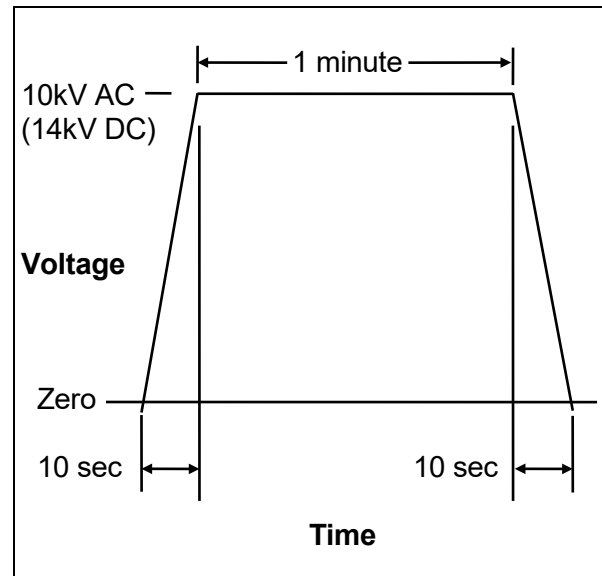

Figure 12 - Application of Test Voltage for Vacuum Check
3. Increase the voltage from zero to 10kV AC at a rate of approximately 1kV per second. Hold the voltage at this value for 1 minute and observe the current drawn by the interrupter (Figure 12).